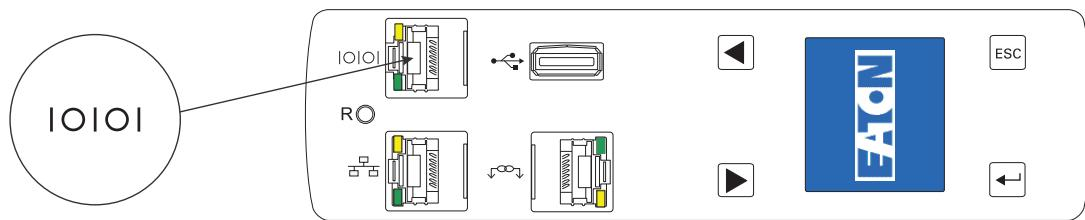

Figure 32. Connecting the EMP to the ePDU RJ-45 Serial Port Connector (0U Models)
3. Locate the Ethernet cable dedicated to the EMP. Connect one end of the cable to the RJ-45 connector on the EMP, then connect the other end of the cable to the serial connector on the ePDU (see Figure 32).